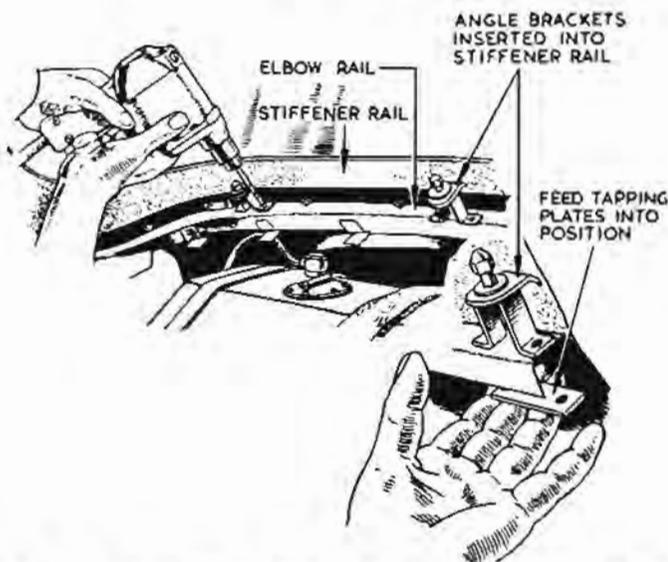

Fig. 4 Drilling the Elbow Rail and installing Bridge Pieces.
- If not already fitted, insert the three shorter angle brackets through slots in the stiffener rail at the rear of the "Hard Top", and a longer angle bracket at each side. Using short flat headed screws and lockwashers, secure the brackets in position. (Fig. 4.)
- (a) Loosely secure the five bridge pieces to the angle brackets previously fitted in the rear stiffener rail. (Fig. 4.)
- (b) Reposition the "Hard Top" to the car and secure to the three windscreen attachment brackets. The bridge pieces will now be resting on the elbow rail channel. (Fig. 4.)
- (e) Remove the bridge pieces from the "Hard Top" and secure to the elbow rail channel, using flat headed screws which screw into tapping plates fed into position under the channel. (Fig. 4.)